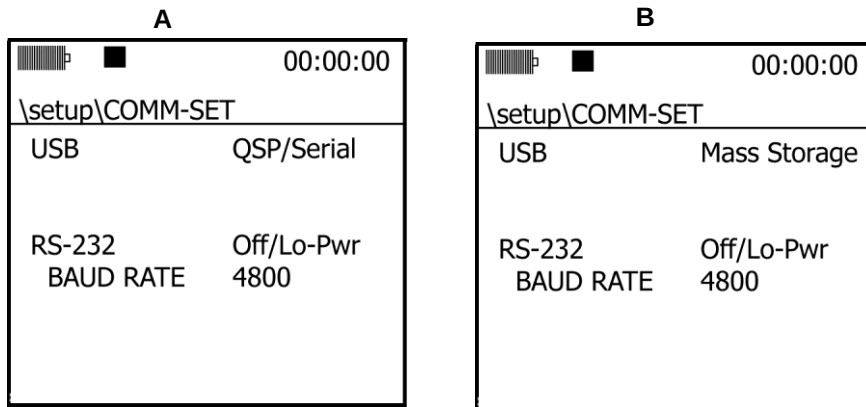

Figure 4-5: QSPII/Serial (A) and Mass Storage(B) screens
- **QSPII/Serial** (Figure 4-5 “A”). For QSP-II communications or other supporting applications, USB should be set to QSP/Serial. The RS-232 channel should be turned off for low power consumption.
- **Mass Storage** (Figure 4-5 “B”). When the USB channel is set for Mass Storage mode the user will have direct access to the instruments SD card through programs such as “Windows file manager”. Much the same way a small pocket USB flash drive operates. When obtaining data from the Verifier via Mass Storage, it is important to remember that the data obtained is in Native Verifier SES format. A File Converter Tool is available to enable you to export the data into Excel. (Please see “File Converter Tool” for more information.)